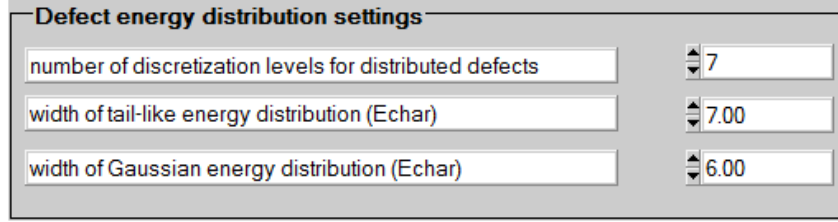

Figure 3.25 Defect settings on the numerical panel with their default values. Top: the number of discretization levels, bottom: w_t and w_G .
- (1) w_G can be defined in the numerical panel; default value: $w_G = 6.0$; see Figure 3.25; G stands for *Gauß*.
- (2) w_t can be defined on the numerical panel; default value: $w_t = 7.0$; see Figure 3.25; t stands for *tail*.